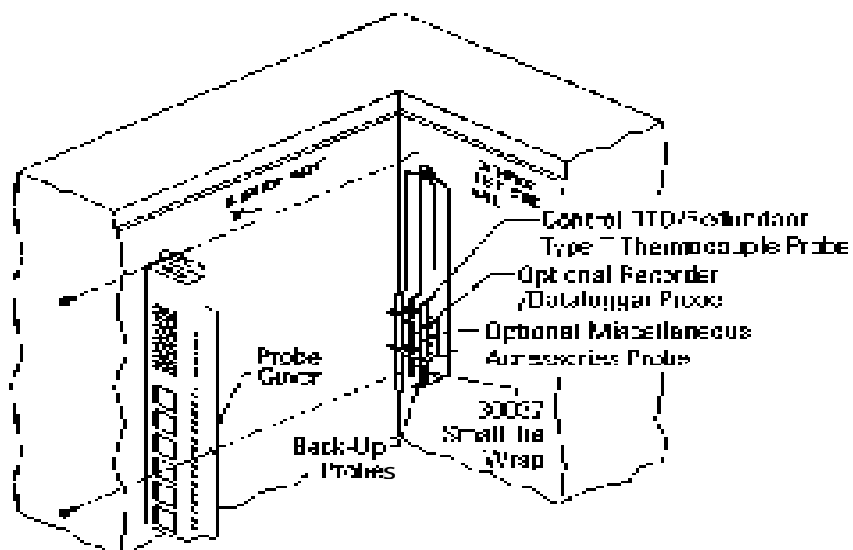

Figure 6-5. Probe location
- Open the freezer lid and locate the probe cover on the upper front left wall. Remove the two Phillips head screws securing the probe cover (see Figure 6-5).
- Route the BUS probe through the probe port, approximately 12". Secure the back-up probes to the temperature probe using a small tie wrap (Figure 6-5).
- Reinstall the probe cover (Figure 6-5).